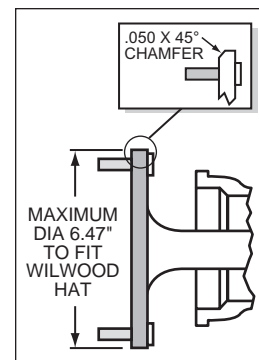

Figure 3. Axle Flange Maximum Dimension
- Maximum axle flange diameter must be no larger than 6.47" w/.050" x 45° chamfer (see Figure 3, right).